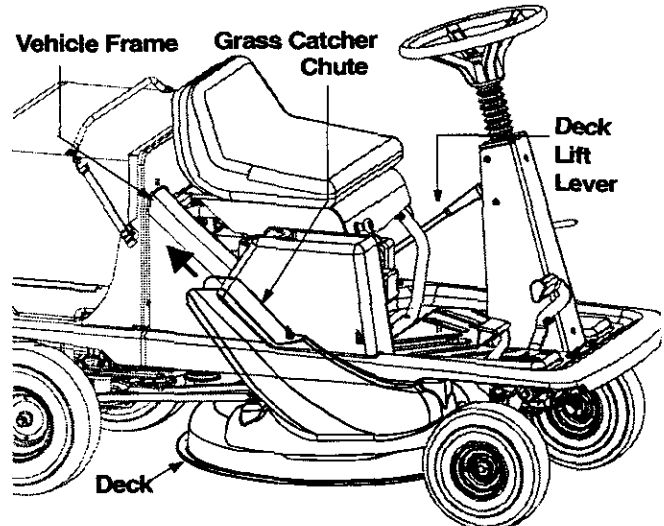

Figure 5
2. Slide the elbow of the grass catcher chute through the vehicle frame and align the chute opening with the corresponding opening on the vehicle frame. See Figure 5.